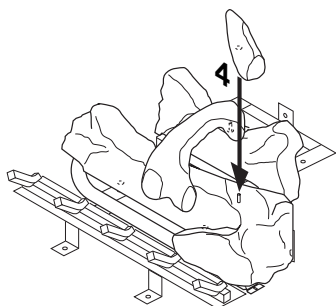

Figure 43 - Installing Log No. 4
4. Place log #4 (right log) on the pin on the right side of front log as shown in Figure 43, page 25.